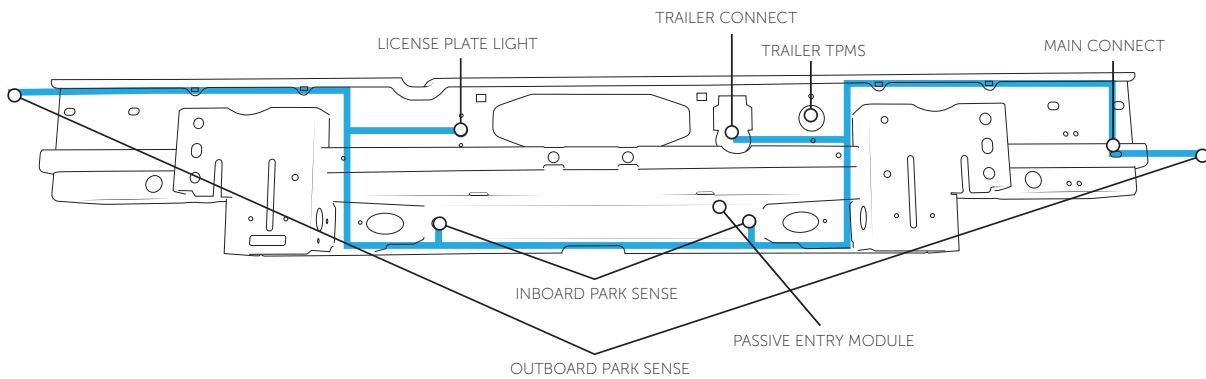

Figure 12
3. Begin laying wire harness into position on the AEV Center Section as shown (figure 12). NOTE: Not all trucks will come equipped with all of the shown modules. If your truck does not have one of the modules detailed below, simply disregard and move on to the next step.